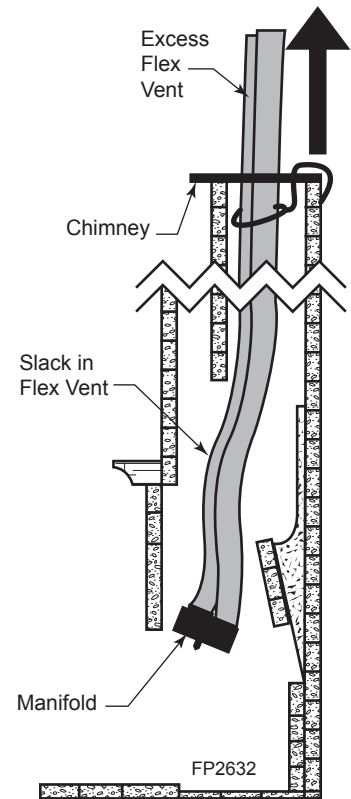

Figure 12 - Pull on Excess Flex Vent
5. Place manifold in an upright position. Pull on excess vent. *Figure 12.* Temporarily attach flex vent to top of chimney. Leave some extra slack in flex vent.